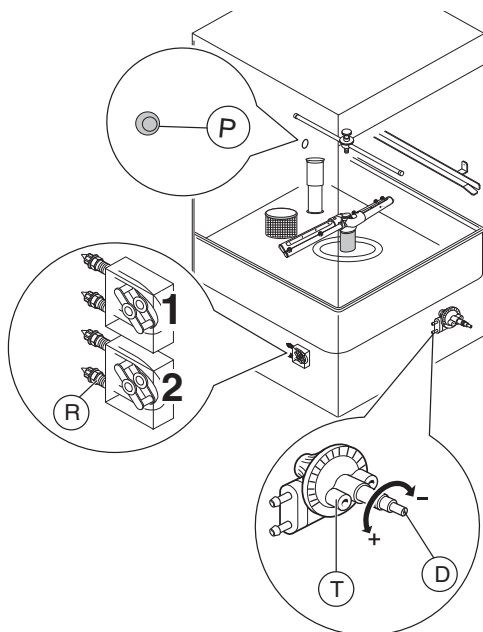

Figure 12 Dispenser prearrangement
### I3.1 Dishwasher with incorporated rinse aid dispenser (Figure 12)
To vary the dose, adjust the screw “D” as required (Figure 12).
### I3.2 Dishwasher with incorporated detergent dispenser (Figure 12).
- Adjust the screw "R" to set the required dose (Figure 12). The adjustment of the amount of detergent delivered by the dispenser must carefully comply with that indicated by the detergent producer. This quantity is usually expressed in g./l and varies depending on the water hardness.
### I3.3 Installation of external automatic detergent dispenser (Figure 12)